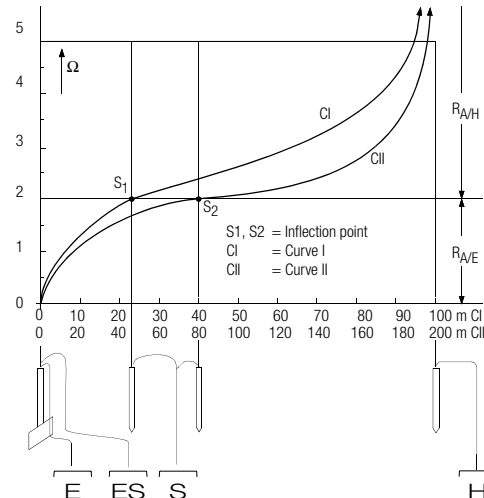

Figure 6 Measuring Earthing Resistance at a Large Earthing System
If this is the case, proceed as shown in Figure 6 on page 17.
- Measured resistance values are subsequently displayed as a table, and then as a graphic representation (curve I in Figure 6 on page 17).
If the characteristic resistance curve does not include a well defined horizontal section, measurement should also be performed after changing the position of the auxiliary earth electrode. The new characteristic resistance curve must then be entered to the first diagram and the abscissa scale must be changed such that both auxiliary earth electrode positions are identical. The originally determined dissemination resistance value can be double-checked with deflection point S2 (see also Figure 6 on page 17).